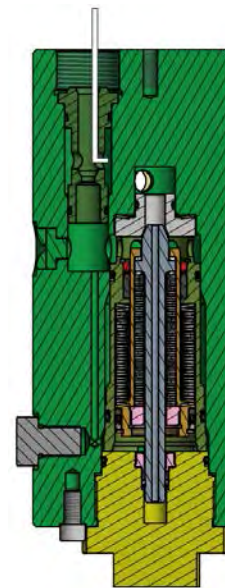

Figure 5 – Trim Removal
- 7.2 Pull out the stem trim (see Figure 5). Use care to avoid damage to the internal surfaces of the SkoFlo valve. – *Brass hooked probe*